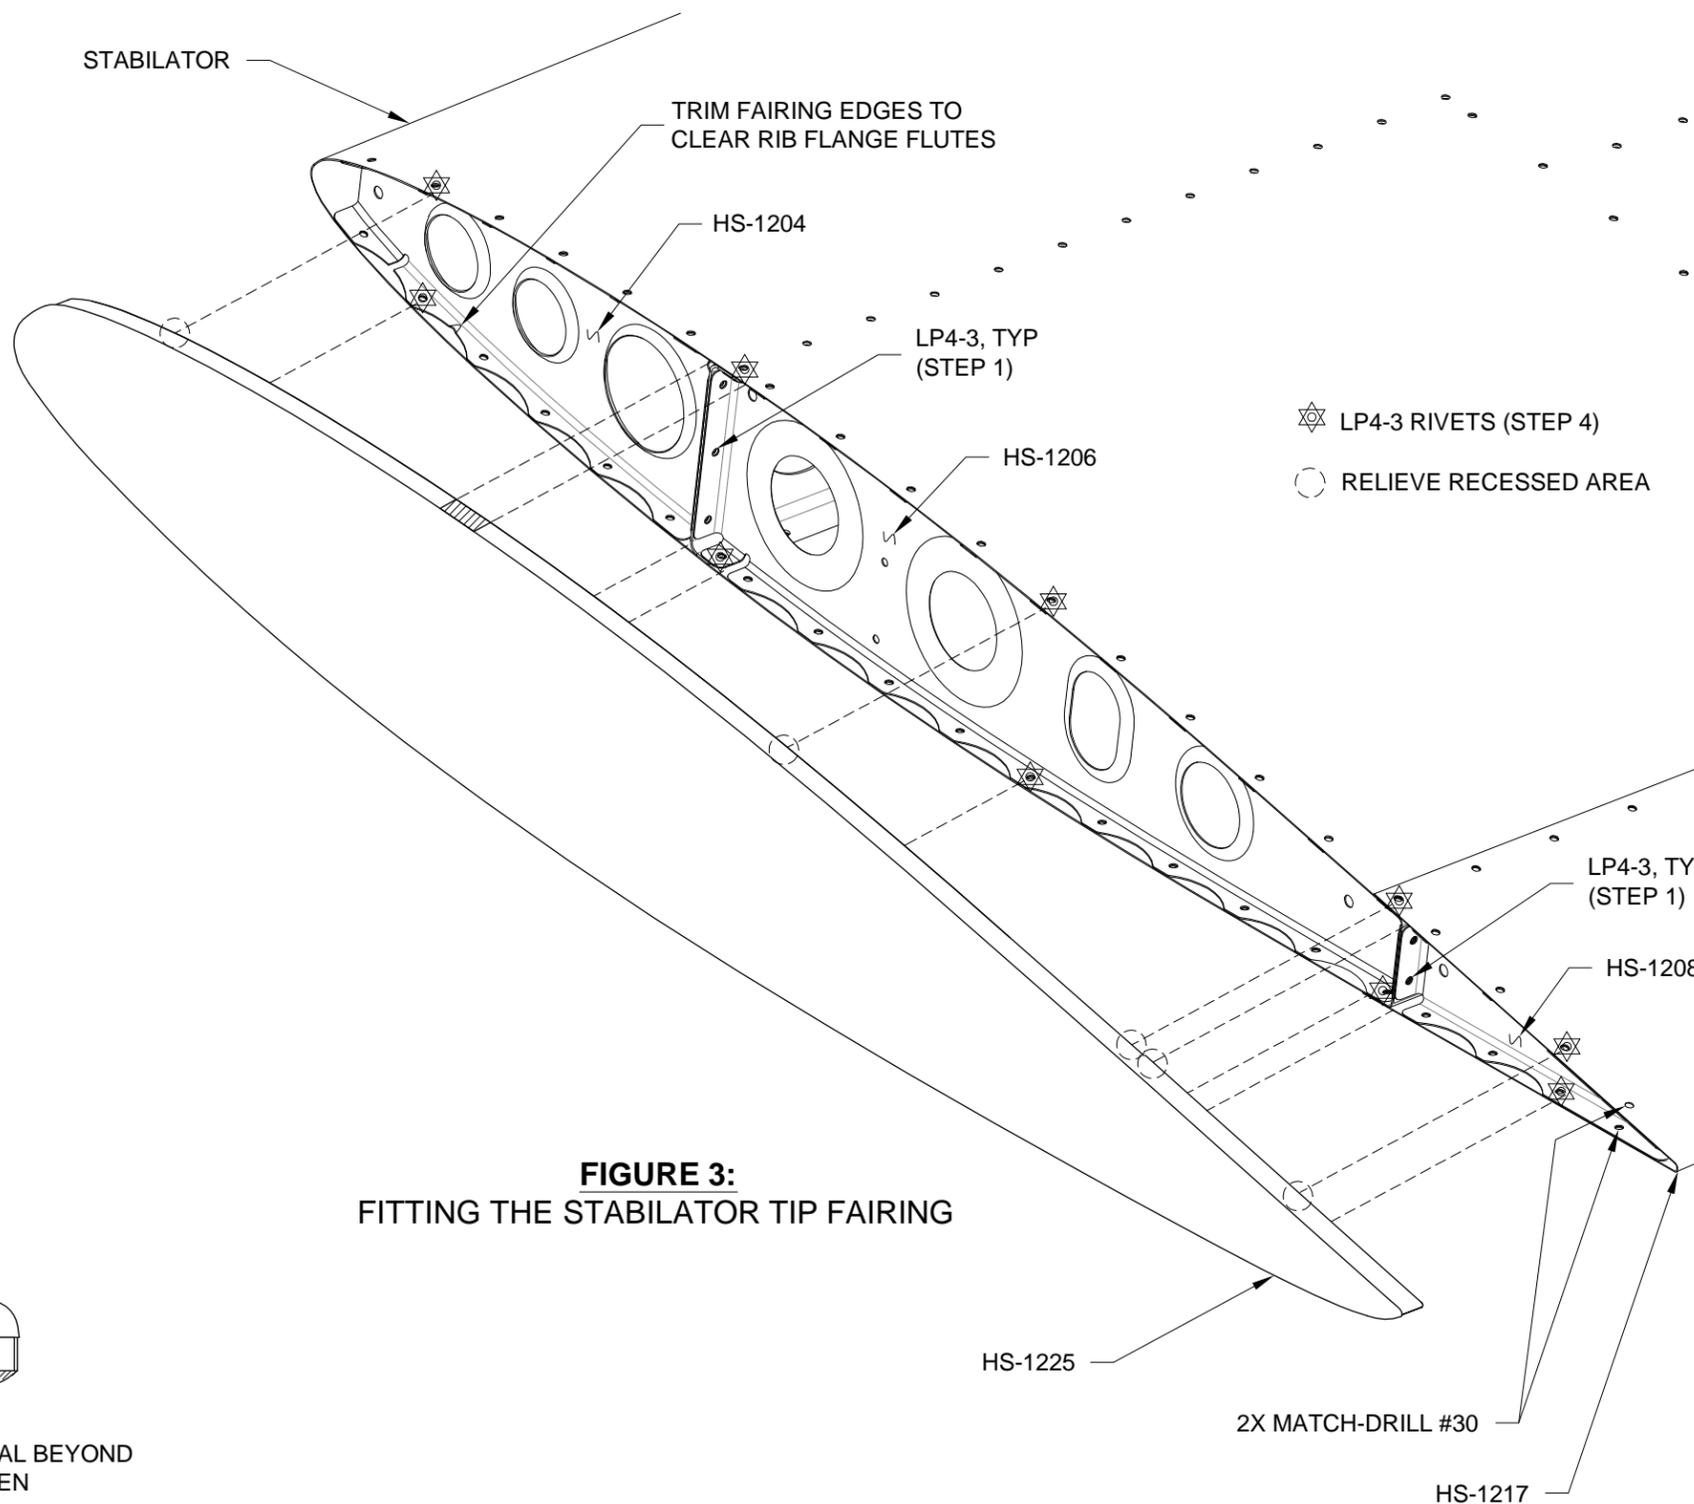

FIGURE 3:
Step 1: Replace the HS-1205 Fwd Outbd Rib, HS-1207 Outbd Main Rib, and HS-1208 Aft Rib with the HS-1204 Fwd Inbd Rib, HS-1206 Inbd Main Rib, and HS-1208 Aft Rib oriented with the flanges facing out as shown in Figure 3. Refer to Section 5 for rivet removal and Section 9 for Stabilator assembly. Flute rib flanges to straighten part if/as required. See Section 5 for more information on fluting.
Step 4: Install the ten rivets at the locations called out in Figure 3 on both the top and bottom surfaces of the stabilator (without installing the tip fairing).
Step 5: Use a small round file or rotary tool to make relief notches in the recessed area on the HS-1225 Fairing where the recessed area interferes with rivet shop heads, rib flutes and stabilator structure. See Figure 3. Deepen the relief notches until the stabilator tip fairing is satisfactorily seated in the stabilator tip.